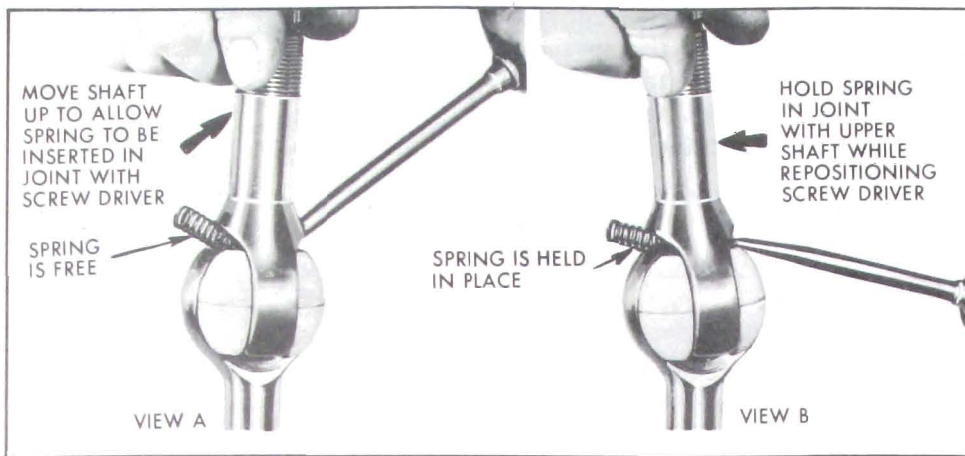

Figure 8-85—Installing Preload Spring
8. Insert the joint preload spring through centering spheres into lower shaft. Using the upper shaft to hold the spring in place and a screwdriver in the other hand, carefully feed spring into shaft joint. See Figure 8-85.